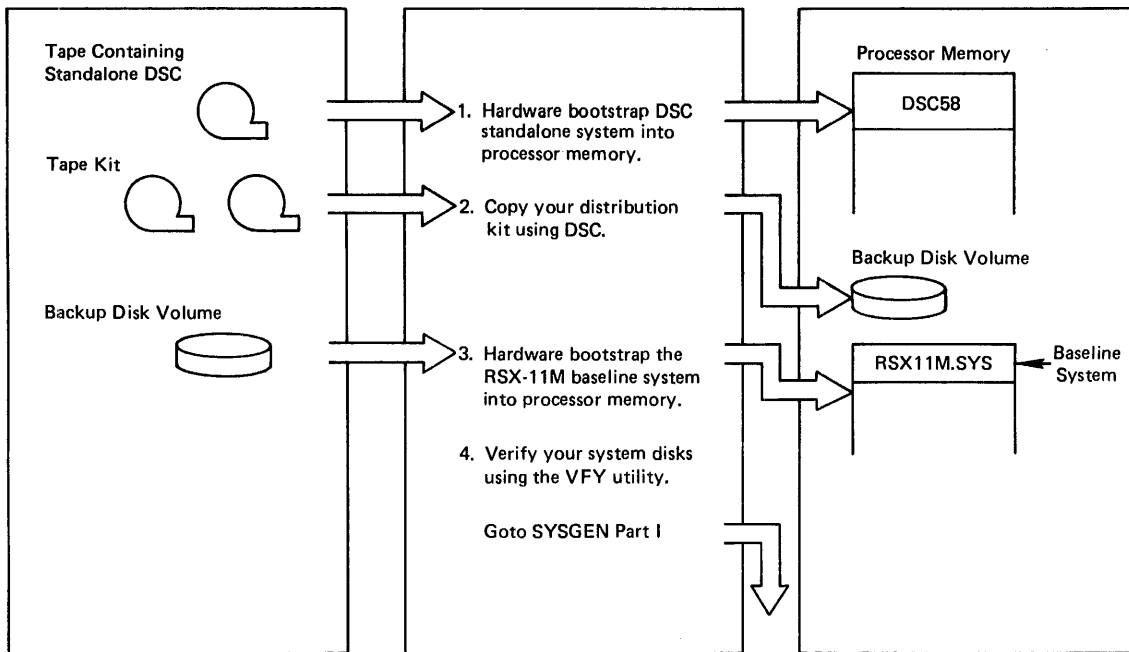

Figure 2-1 Copying Tape Distribution Kits
The procedure for copying from tape to disk and bootstrapping the baseline system is shown in Figure 2-1.
**Step 1** in Figure 2-1 is bootstrapping the standalone version of the Disk Save and Compress Utility (DSC) into processor memory. DSC provides the functions required to copy the RSX-11M distribution media. (For a complete description of DSC functions, refer to the RSX-11 Utilities Manual.)
**Step 2** in Figure 2-1 is copying the tape distribution media to disk using DSC. The following is the general format for entering DSC command lines to copy from tape to disk:
**Step 3** in Figure 2-1 is to hardware bootstrap the RSX-11M baseline system into processor memory to control the system resources while SYSGEN is executing.
**Step 4** in Figure 2-1 is to verify the integrity of the disks you are using for system generation. Use the File Structure Verification Utility (VFY) to ensure the integrity of these disks. (The RSX-11 Utilities Manual provides details of all the functions performed by VFY.)